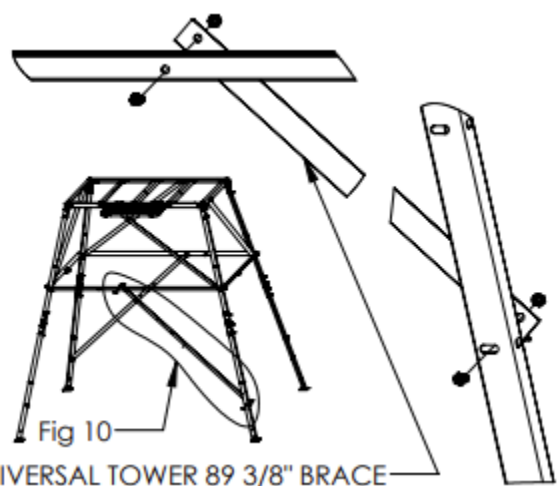

Fig 10
16. Attach the 89 3/8 brace to the horizontal cross bar and the lower leg on the long side using 2 - 3/8" x 1" bolts & 2 - 3/8" nylon lock nuts. Repeat on the opposite side. Do not tighten these at this time. (Fig 10)